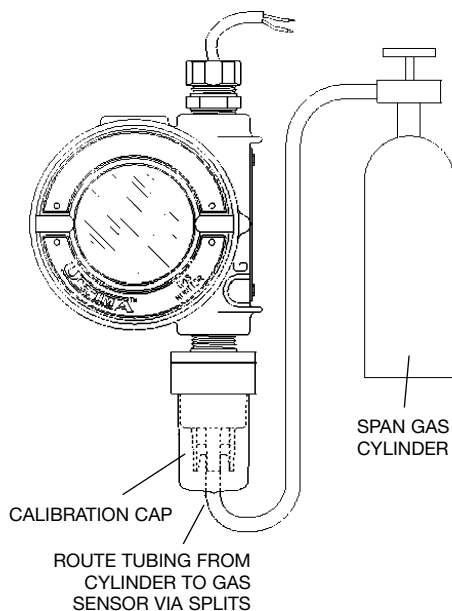

Figure 2-7.
When using Cal Kit 41, (or Cal Kit 40 with the ULTIMA XIR), locate the Cal Cap with a hole for tubing and push the tubing through the hole in the bottom of the cap. Then, connect the end of the tubing over the sensor inlet and push the calibration cap over the entire sensor inlet (see FIGURE 2-7).
- b. Cal Kit 41(or Cal Kit 40 with the ULTIMA XIR), locate the Cal Cap with hole for tubing and push the tubing through the hole in the bottom of the cap. Then, connect the end of the tubing over the sensor inlet and push the calibration cap over the entire sensor inlet (see FIGURE 2-7).